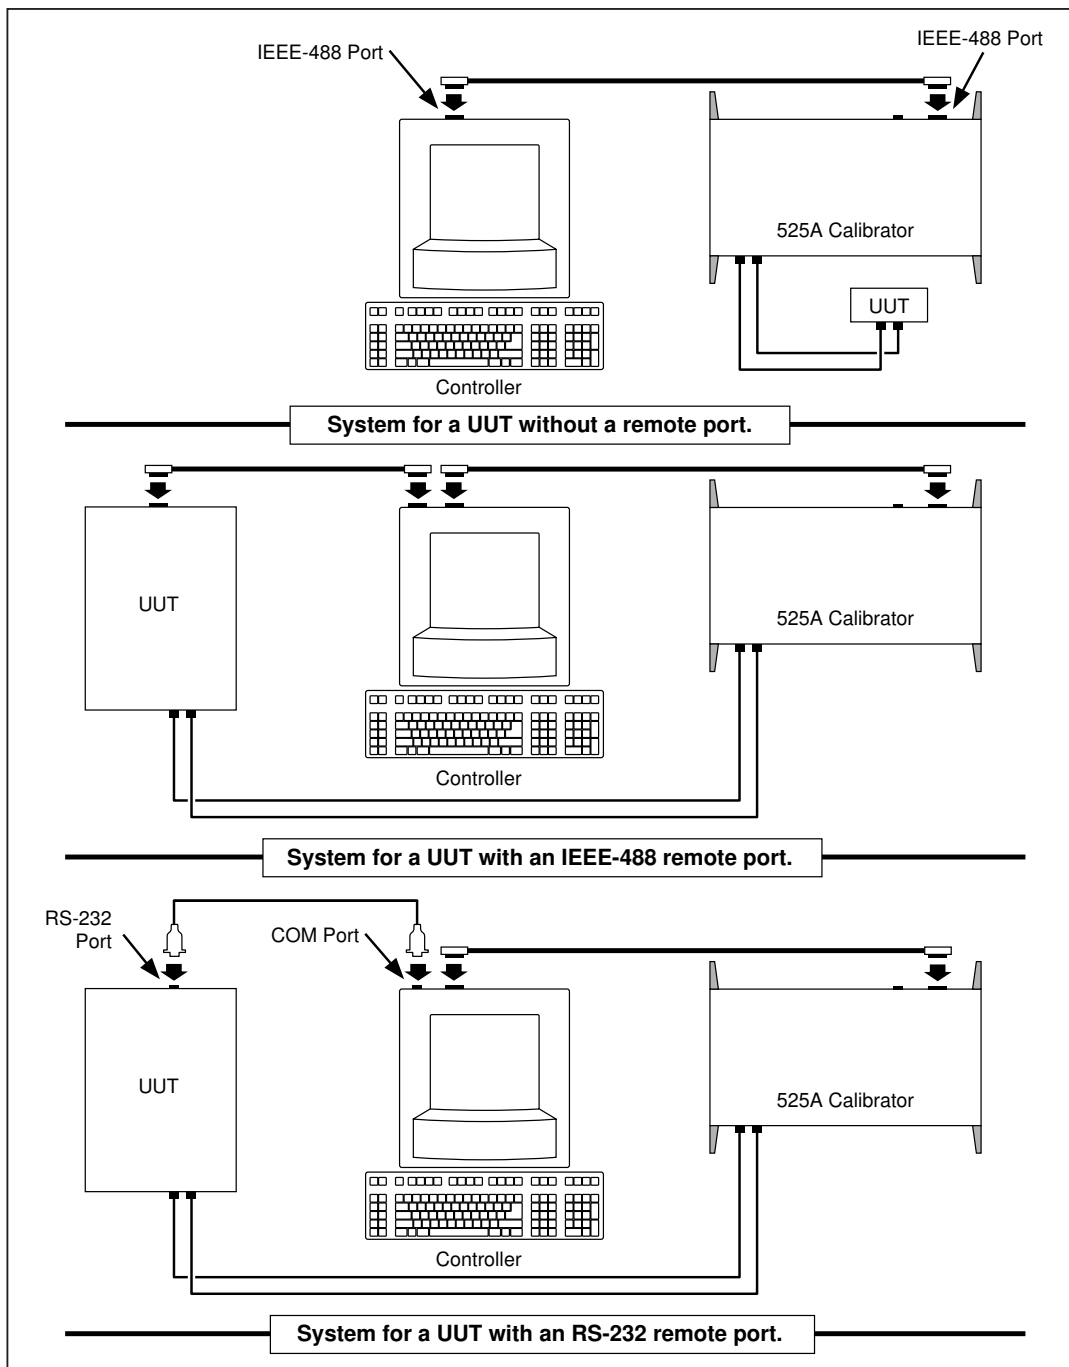

Figure 4-3. Typical IEEE-488 Remote Control Connections
IEEE-488 The IEEE-488 parallel port is usually used in larger control and calibration systems. An IEEE-488 system has the ability to serve multiple Calibrators and multiple UUTs. Also, parallel system throughput is faster than serial system throughput. The controller in an IEEE-488 system is typically a Windows® compatible personal computer (PC) equipped with one or more IEEE-488 ports. You can write your own computer programs for system operation using the command set, or you can purchase optional Fluke calibration software MET/CAL. Typical IEEE-488 configurations are shown in Figure 4-3. The configuration showing the PC with two IEEE-488 ports is used with MET/CAL, which prefers UUTs on a separate IEEE-488 port. You can also “piggy-back” the connectors on a single IEEE-488 port.